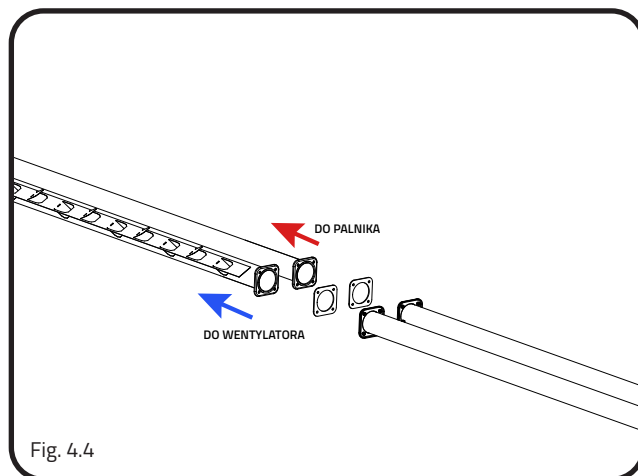

Fig. 4.4
2. **For INFRA 9BU / 12BU / 15BU only:** Connect the corresponding radiant tubes by bolting the flanges together using the set of bolts, washers, and nuts. 8 x M8.25. Be sure to place a gasket between the flanges, as shown in FIG. 4.4.